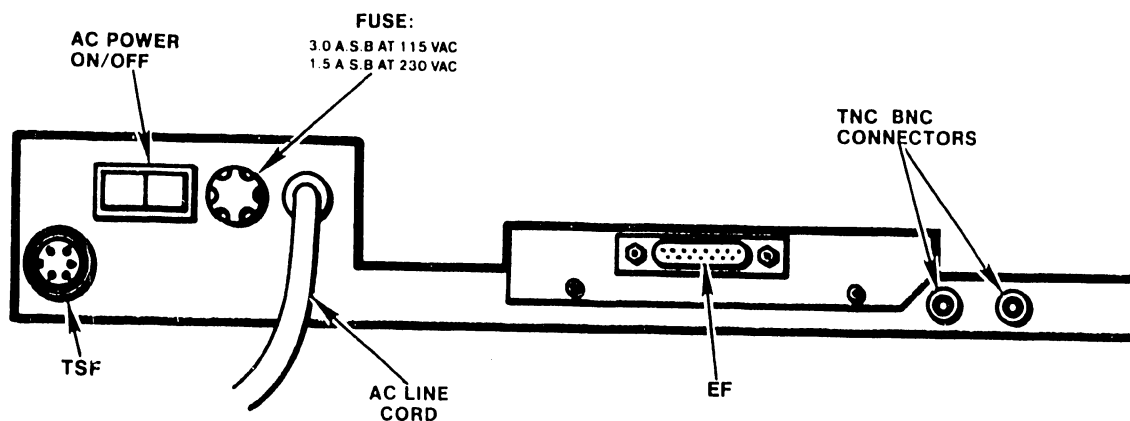

FIGURE 2-12 DAISY PRINTER REAR POWER PANEL
The Rear Power Panel, located on the rear of the printer, contains the main fuse, an AC power ON/OFF rocker switch, the AC line cord, and the I/O BNC and TNC connectors (see Figure 2-12). Also shown are the cable connectors provided for connecting a twin sheet feeder (TSF) and/or an envelope feeder (EF) as shown in Figure 2-12.